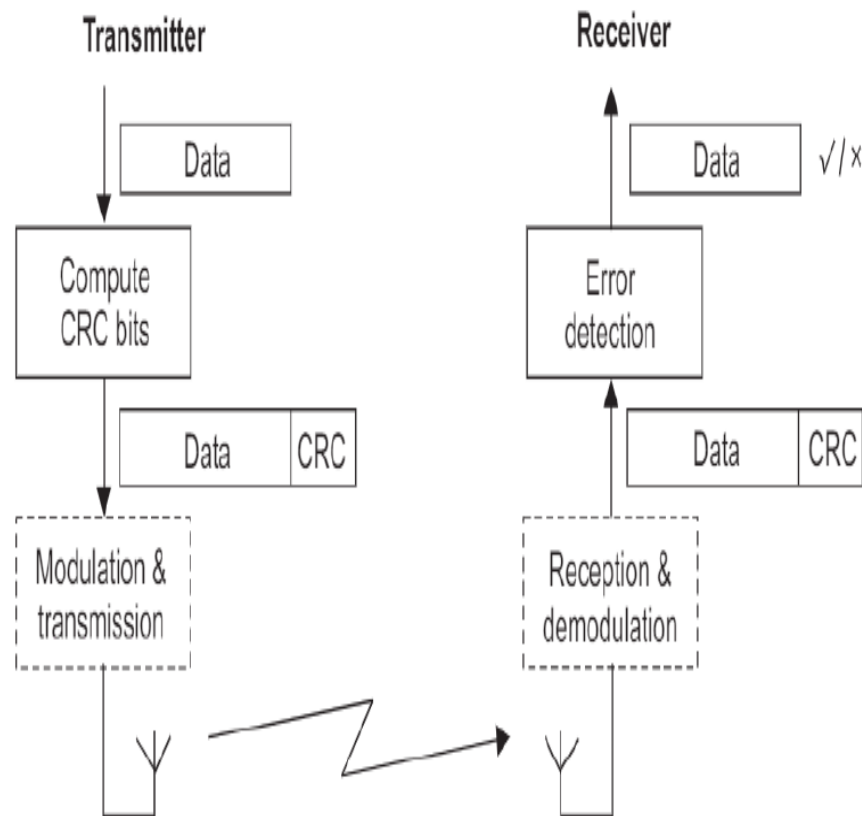

Fig 4.22: Block diagram of a transmitter and receiver using automatic repeat request
- Automatic repeat request (ARQ) is another error management technique, which is illustrated in Fig 4.22. Here, the transmitter takes a block of information bits and uses them to compute some extra bits that are known as a cyclic redundancy check (CRC).